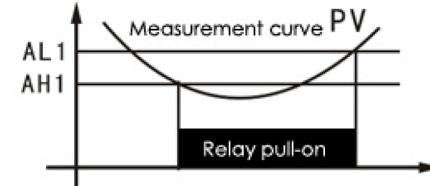

Figure 2
- (3) When setting AH1<AL1, if the measurement value is ≤AH1, the relay pulls on; when the measurement value is ≥AL1, the relay releases. See figure 2 for action of the relay and often used for lower limit alarm.
- (4) The pull-on value does no equal to the release value. The area between them forms the